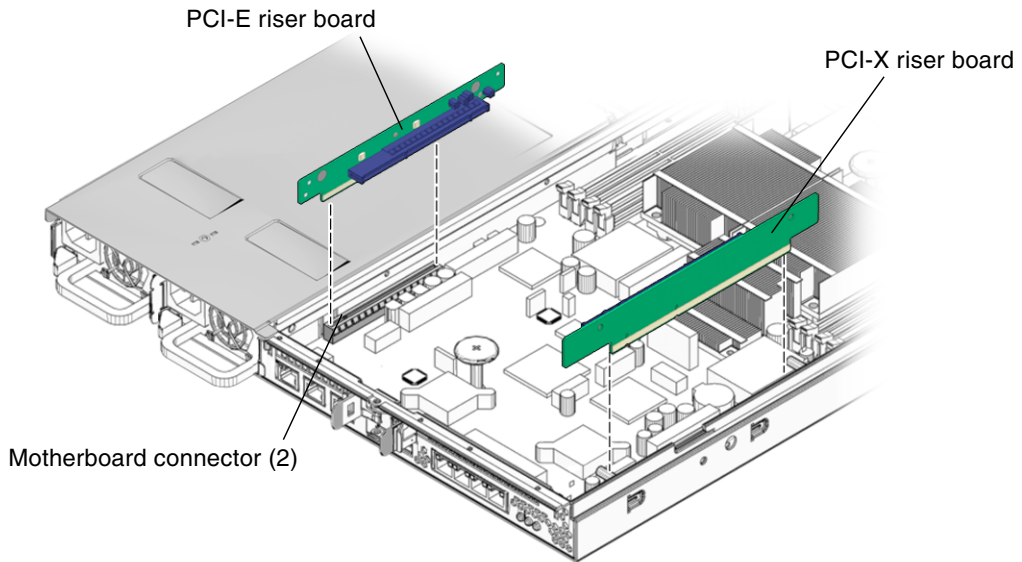

FIGURE 3-14 PCI-E and PCI-X Riser Boards
5. Remove the PCI-X and PCI-E riser boards (FIGURE 3-14).
2. Install the PCI-E and PCI-X riser boards in the motherboard connectors (FIGURE 3-14).